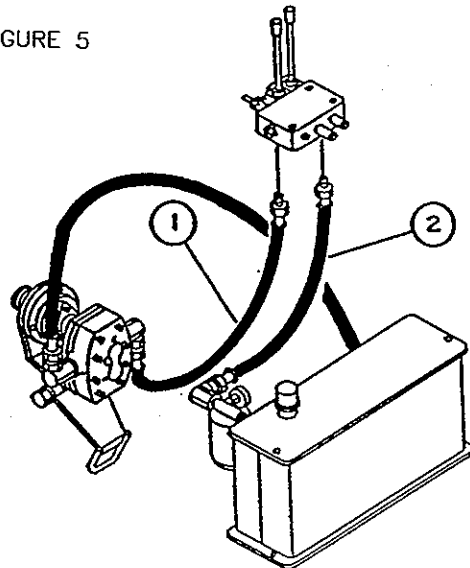

FIGURE 6
- c) Install $1/2"$ x 42" hose (not included)(fig.6, item 1) from hydraulic pump to input port on valve.
- h) Connect reservoir $1/2"$ x 30" hose (not included)(fig.6, item 2) to output port on valve.